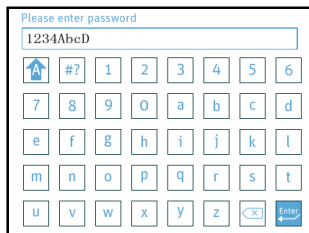
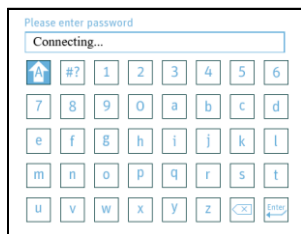

Fig. 15-10
Fig. 15-11
(4) After the desired WiFi network is found, press **the Knob** . Turn **the Knob**  to select this WiFi network. Press **the Knob**  to access the WiFi password input interface. The password is at least 8 characters in length, and can contain uppercase and lowercase English letters and digits 0 ~ 9, as shown in Fig. 15-10. After the password is entered, turn **the Knob**  until the cursor stays on the **Confirmation Key** . Press **the Knob**  to connect to the WiFi network, as shown in Fig. 15-11. At this moment, the user must not perform any operations, and should wait 0 ~ 15 seconds for the connection result.